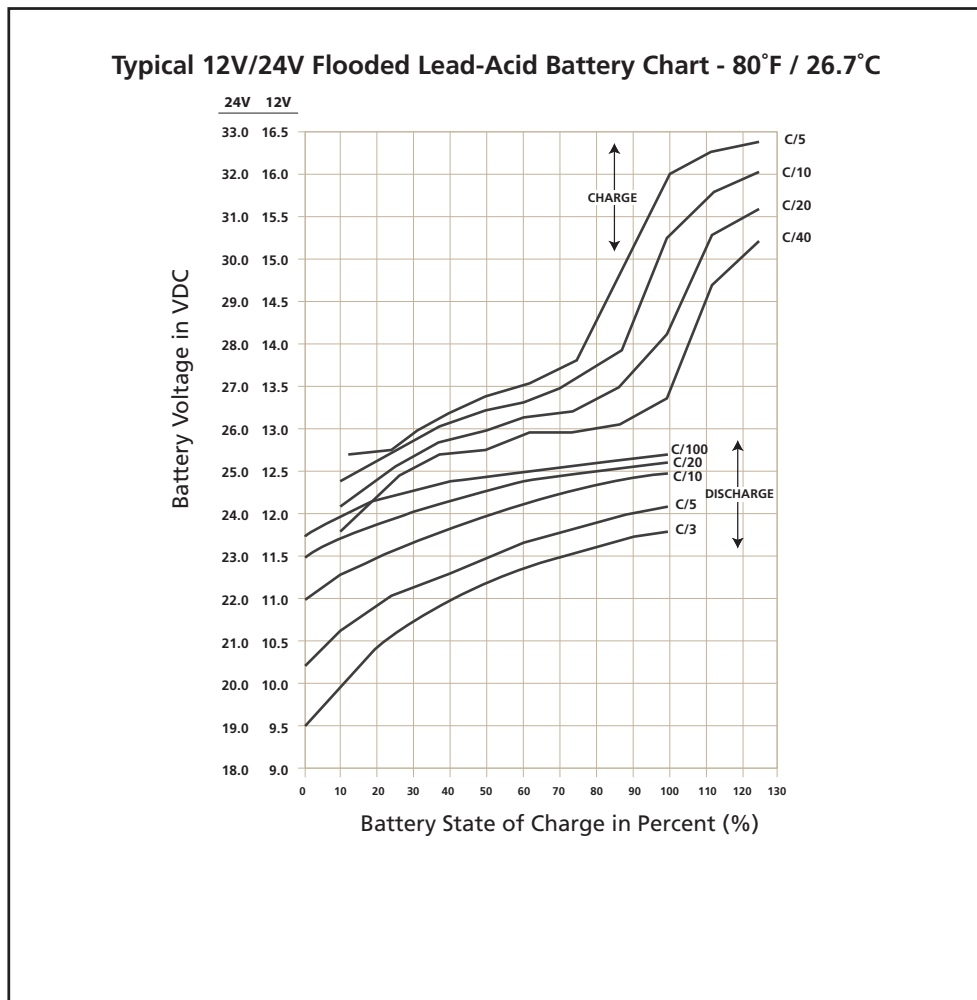

Fig 1.4.1 Charging / Discharging Curves for Typical 12V/24V Flooded Lead Acid Battery
1.4.11.1 Fig 1.4.1 shows examples of State of Charge / Discharge Curves for different C-rates for typical 12V / 24V Lead Acid Battery at 80°F / 26.7°C. These curves are used to determine the State of Charge / Discharge of the battery based on its terminal voltage.
1.4.11.2 **Example of Determining State of Charge (using Fig 1.4.1) when Charging 12V, 100Ah Battery at C-rate of 0.1C or C/10 or 10A:** Refer to Charge Curve marked C\10 of the upper 4 curves marked "CHARGE". States of Charge at different battery terminal voltages will be: (a) At 5.3V = 100% charged; (b) At 14.3V = 90% charged; (c) At 13.5V = 70% charged; (d) At 12.5V = 15% charged
1.4.11.3 **Example of Determining State of Discharge (using Fig 1.4.1) when Discharging 12V, 100Ah Battery at C-rate of 0.33C or C/3 or 33.3A:** Refer to Charge Curve marked C\3 of the lower 4 curves marked "DISCHARGE". States of Discharge at different battery terminal voltages will be: [a] At 9.5V = 100% discharged (0% charged); [b] At 10.4V = 80% discharged (20% charged); [c] At 11.5V = 28% discharged (72% charged) and [d] 11.75V = 0% discharged (100% charged)
The discharge curves in Fig. 1.4.1 show the % State of Charge versus the terminal voltage of typical Flooded Lead Acid Battery under different charge /discharge currents, i.e. “C-rates” and fixed temperature of 80°F. *(Please note that the X-Axis of the curves shows the % of State of Charge. The % of State of Discharge will be 100% - % State of Charge).*
As stated earlier at Section 1.4.14, the buzzer alarm is triggered when the voltage at the DC input terminals of the inverter has dropped to around 10.5V for a 12V battery or 21V for 24V battery at C-rate discharge current of C/5 Amps. Please note that the terminal voltage relative to a particular State of Discharge decreases with the rise in the value of the discharge current. For example, terminal voltages for a State of Discharge of 80% (State of Charge of 20%) for various discharge currents will be as given at Table 1.4.5 (Refer to Fig. 1.4.1 for parameters and values shown in Table 1.4.5):
Inverters are normally provided with a protection to shut down the output of the inverter if the DC voltage at the input terminals of the inverter drops below a threshold of around 10V for a 12V battery or, 20V for 24V battery. Referring to the Discharge Curves given in Fig 1.4.1, the State of Discharge for various C-rate discharge currents for battery voltage of 10V / 20V is as follows: *(Please note that the X-Axis of the curves shows the % of State of Charge. The % of State of Discharge will be 100% - % State of Charge):*